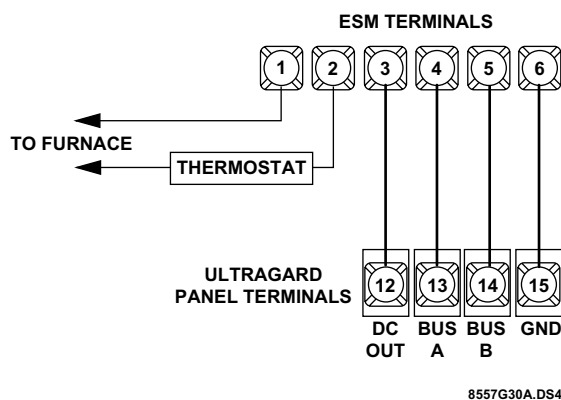

Figure 4. ESM Wiring Connections to the Thermostat and UltraGard Panel Terminals
5. Connect terminals 3 thru 6 to the panel as shown in Figure 4.